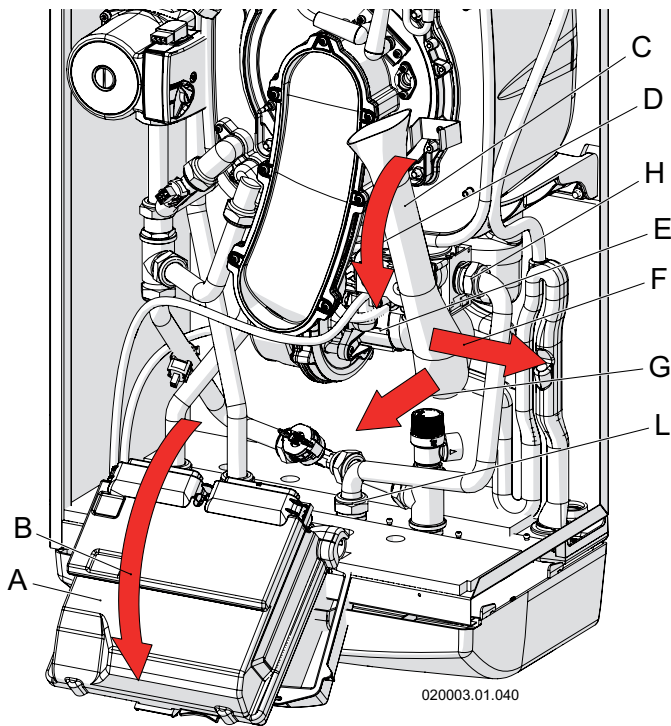

Figure 6.2 - Removing the air manifold
- 13 - remove the air manifold making sure to turn it externally and then slide it out of the fan inlet (see figure 6.2, detail "C");
- 15 - remove the gas inlet pipe via the two fittings (see figure 6.2, details "H" and "L");
- 20 - remove the gas supply pipe via the two fittings (see figure 6.2, details "H" and "L");
- 21 - re-mount the air manifold (see figure 6.2, detail "C");